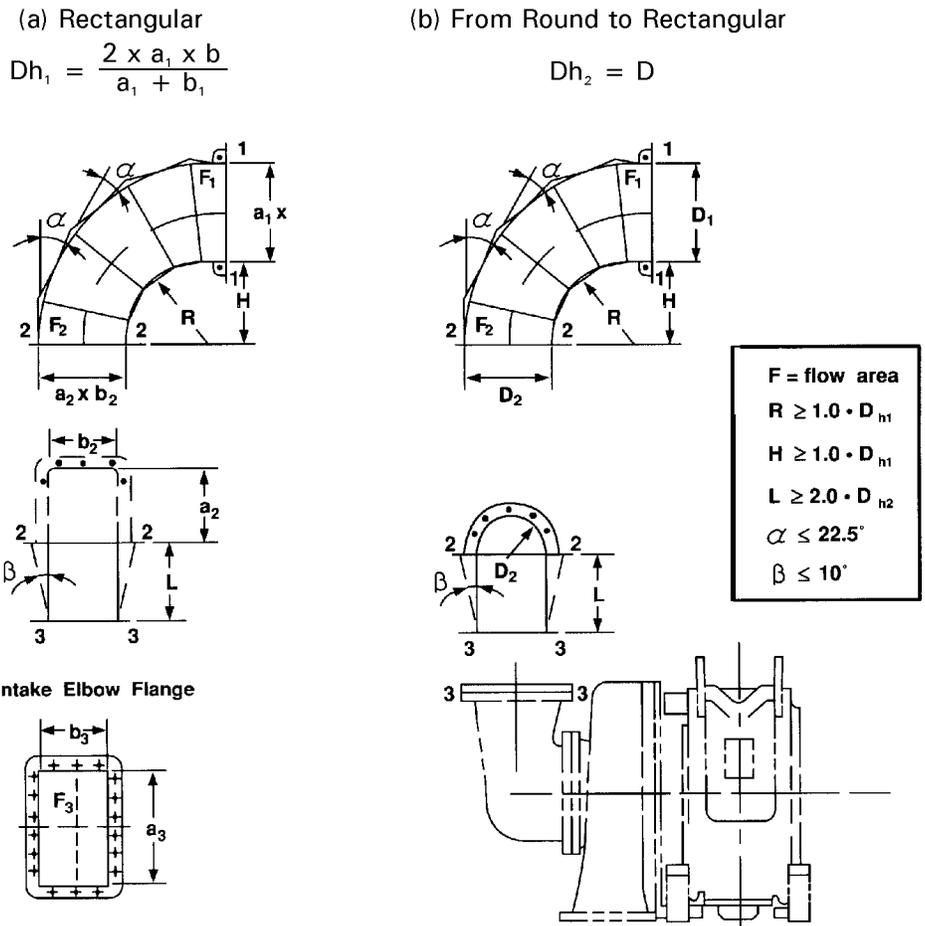

Figure 6
- An accelerated flow is expected to occur in the bend. The flow area (F) should be: $F_1 > 1.5 \times F_2$, as shown in **Figure 6**.